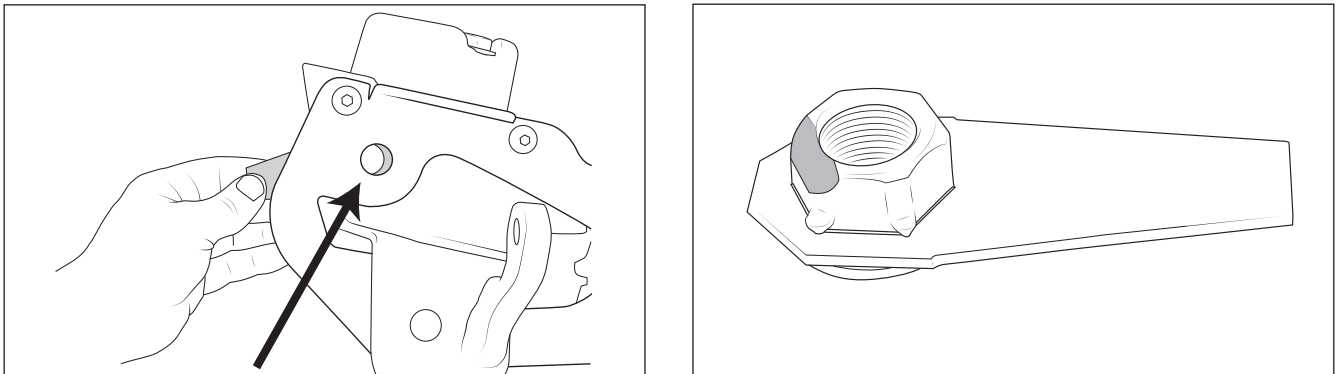

Figure 17
- c. The tab nut off of the frame side track bar bolt will be used for the axle side track bar bolt. The edge will need beveled to fit. Hold it up to the hole and check for clearance and bevel as needed (fig. 17).